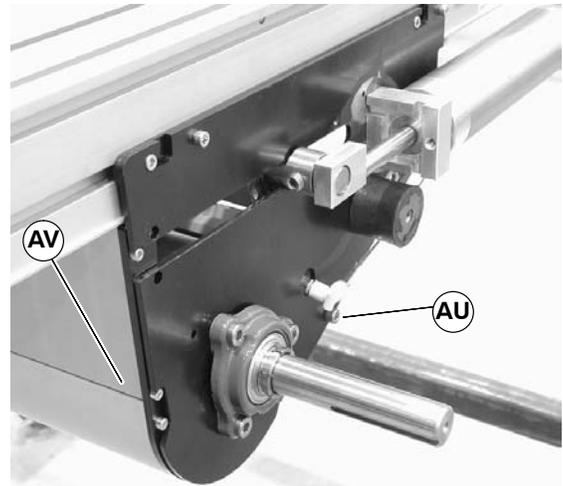
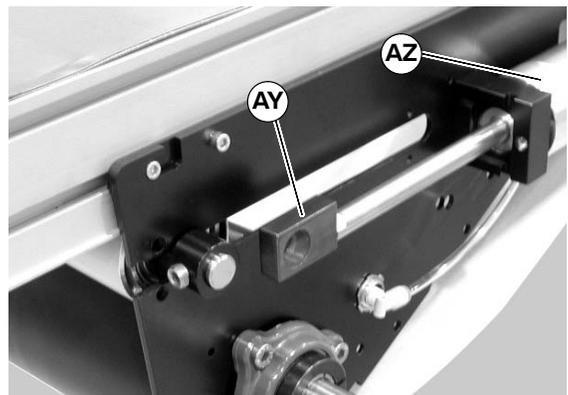

Figure 62
Figure 64
3. Temporarily support the tensioning roller guard (AV of figure 62). Remove screws (AU) on both sides of center drive and remove tensioning roller guard (AV of Figure 62 and 63).
5. Push shaft (AX of Figure 62) through block, slide block (AY of Figure 64) towards air cylinder (AZ).